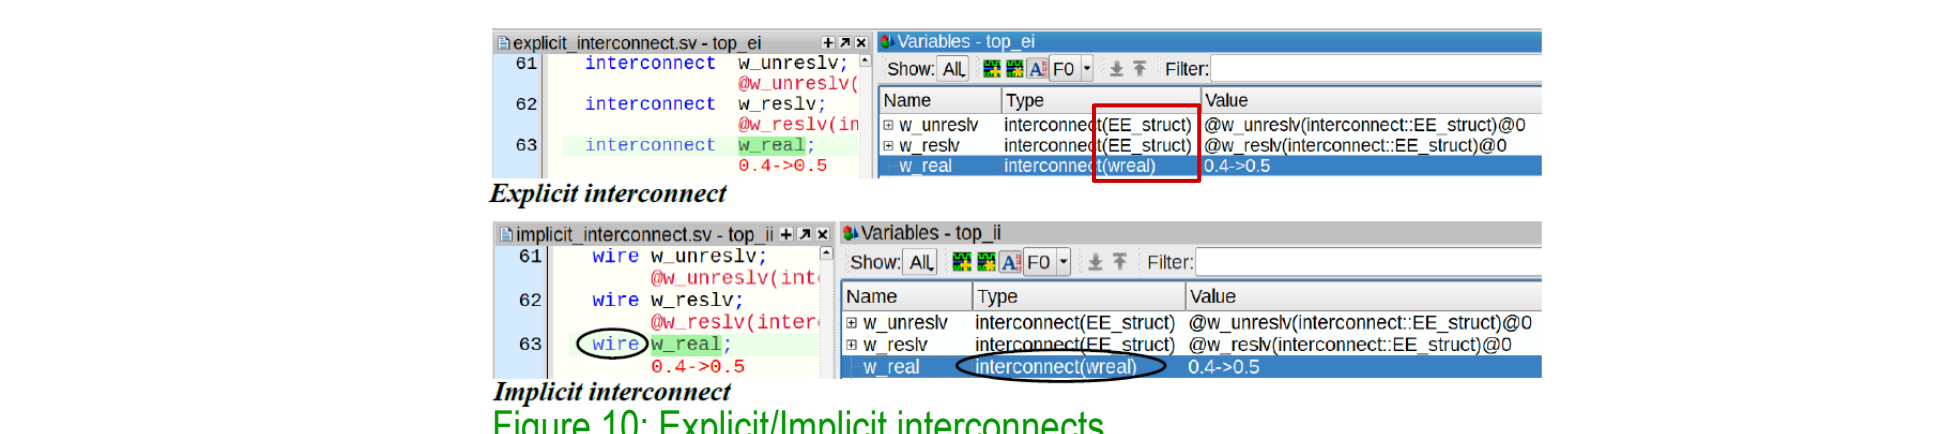
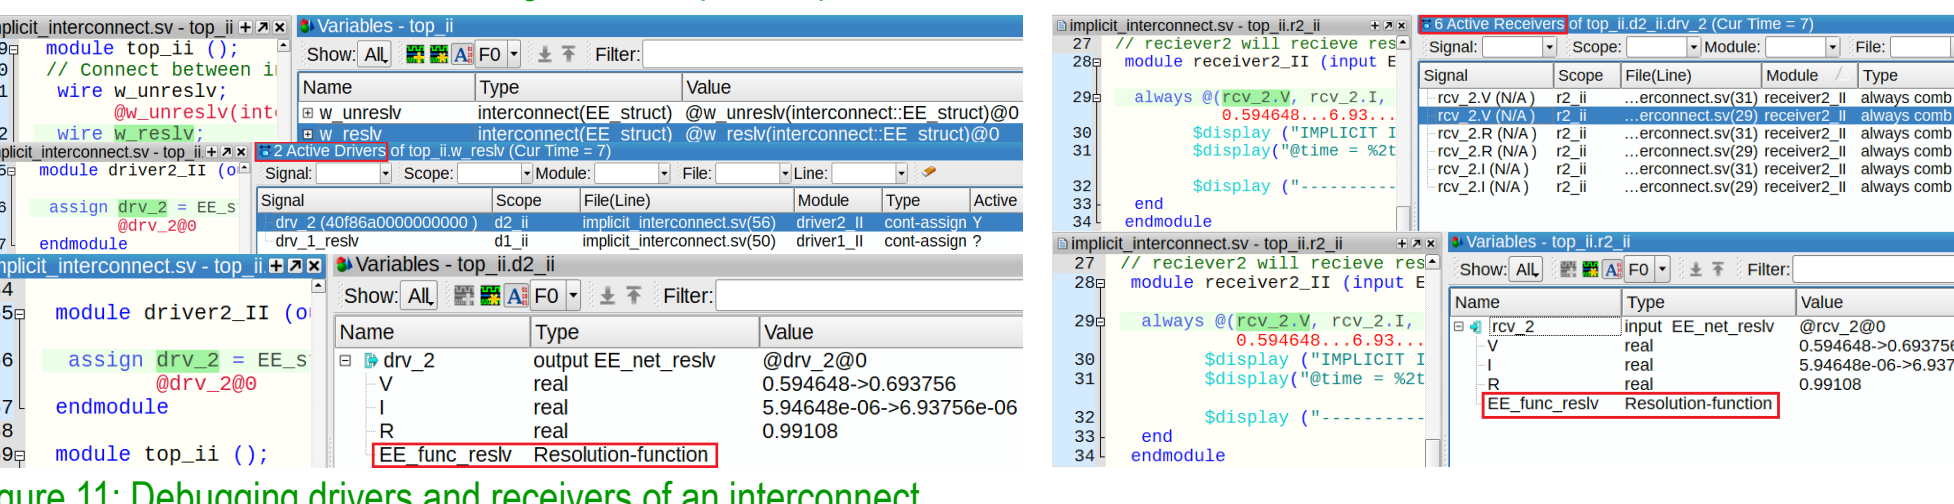

Figure 10: Explicit/Implicit interconnects
Figure 11: Debugging drivers and receivers of an interconnect
- Differentiate between interconnects implicitly defined by the tool and those explicitly defined by the user as in Figure 10.
- Highlight the data type driven by the interconnect, the red box in Figure 10 shows the data type that will be driven by the interconnect between brackets '()'. Show the drivers/receivers of interconnect. Notice that this interconnect connects UDRN because the datatype of the port has a resolution function as shown in Figure 11.